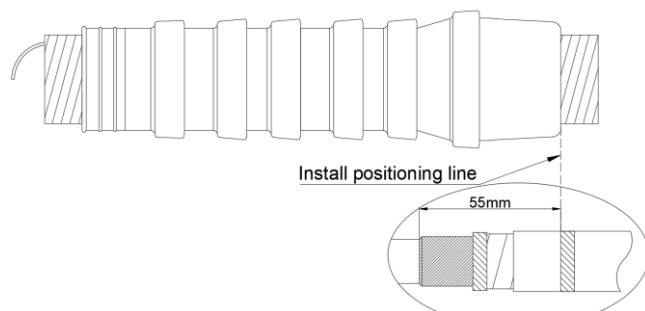

Fig.3
- Place the cold shrink termination onto the cable, aligning the mark with the end of the termination as shown in Fig.3.